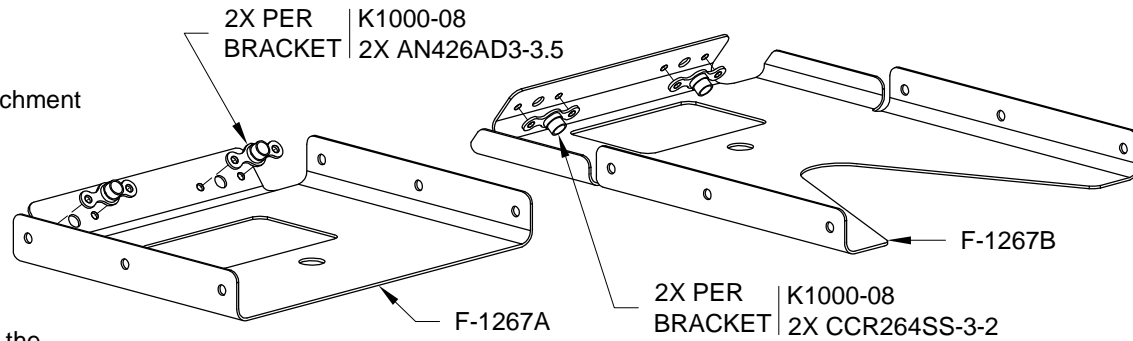

FIGURE 1: CROTCH STRAP BRACKET NUTPLATES
Step 2: Dimple the nutplates for the F-1267A Crotch Strap Brackets then, using the rivets called out in Figure 1, rivet the nutplates to the F-1267A & B Crotch Strap Brackets.